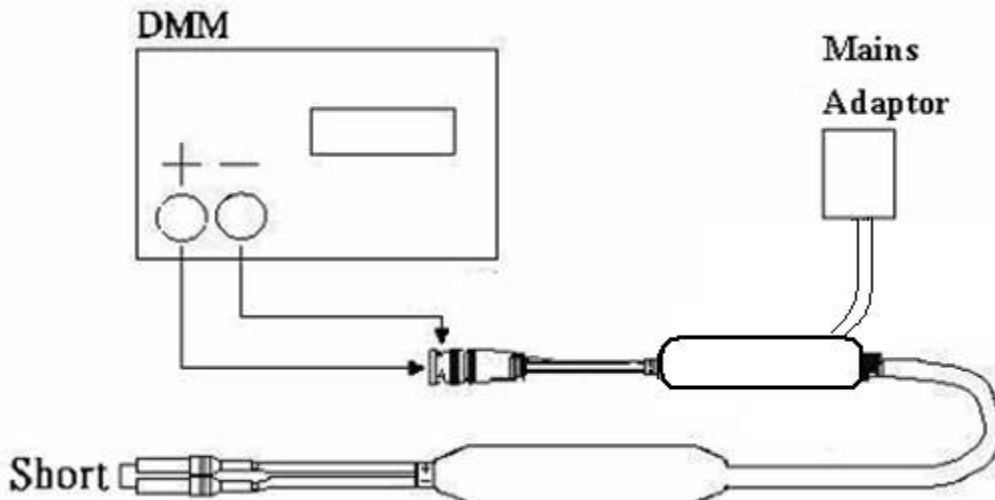

Fig. 4
- C-1. Connect the probe as shown in figure 4.